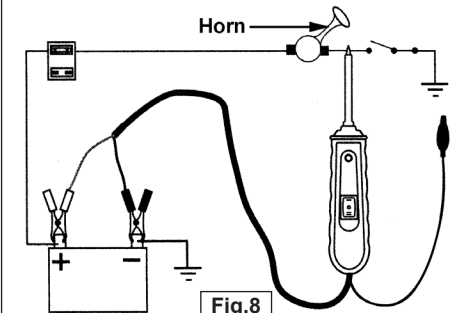

Fig.8
3.9 ACTIVATING COMPONENTS WITH A NEGATIVE (-) VOLTAGE WITHIN THE VEHICLE'S ELECTRICAL SYSTEM (See Fig.8).